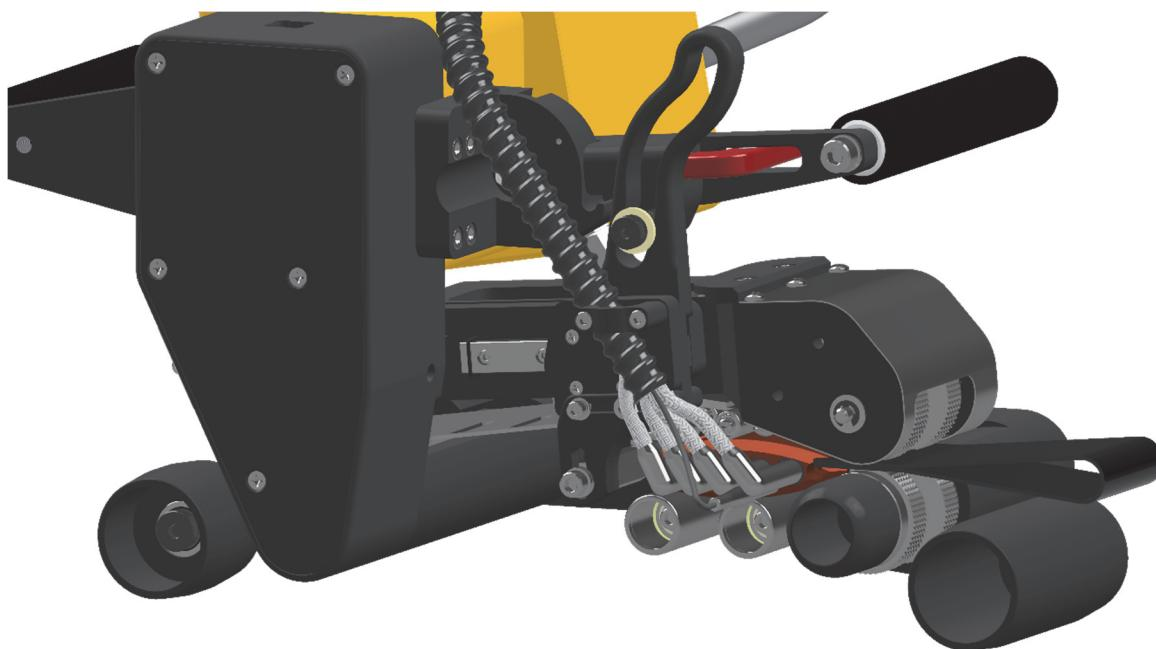

Figure 7.3
- 7.1.6 Insert the adjustment material (the opposite end of the fold, two thicknesses) between the nip rollers and engage nip rollers together until the upper nip arm locks into place (Figure 7.3). Check pressure by attempting to move the material side to side. If you are able to move the material or pull the material straight out without the nip rollers turning, disengage the nip pressure and turn adjustment nut